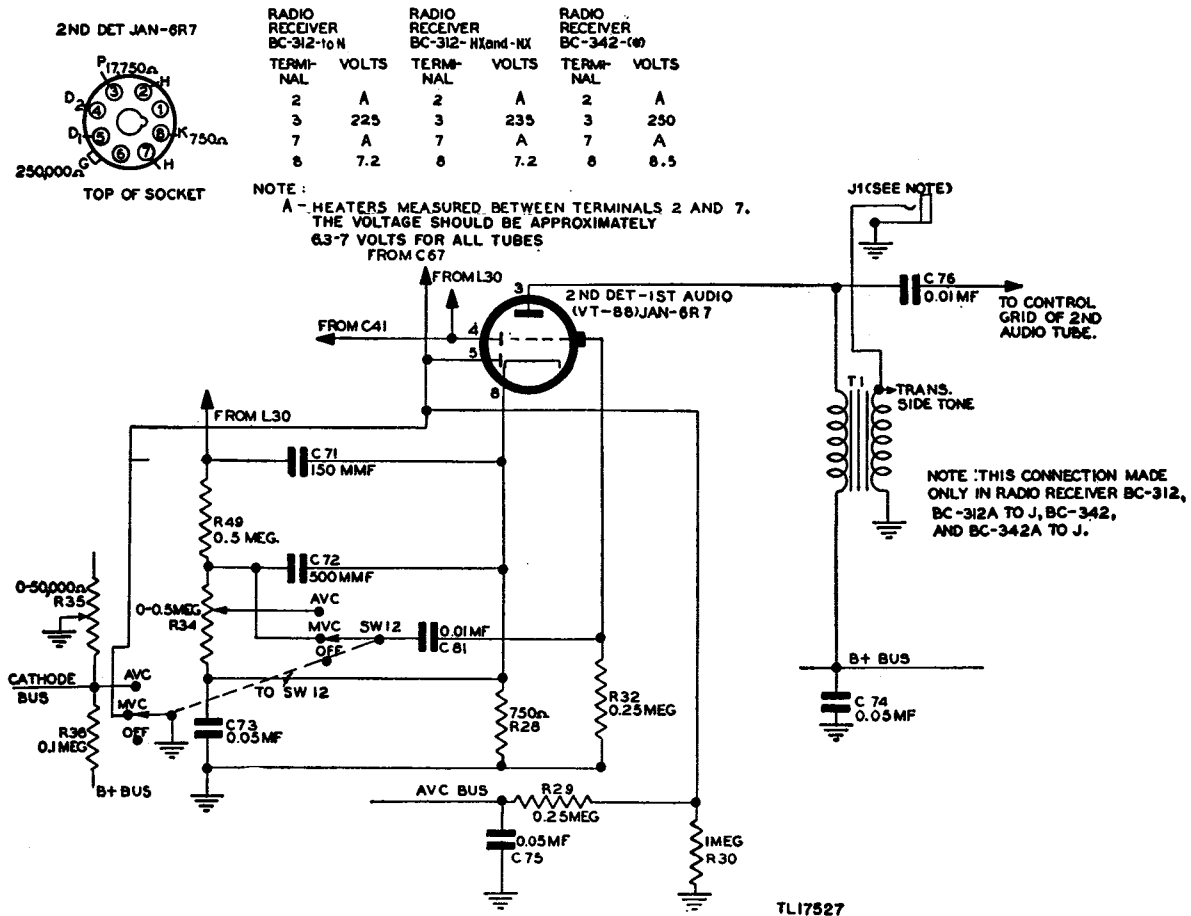

Figure 28. Second detector and first audio circuit, schematic diagram.
b. VOLTAGE AND RESISTANCE MEASUREMENTS. The voltage and resistance measurements shown in figure 28 are made in the manner and under the conditions listed in paragraph 42b.